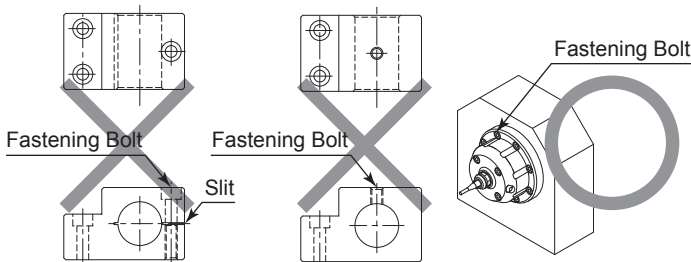

Fig. 4
- Secure the spindle to the countersunk holes (8 locations) on the flange using M3 bolts as shown in Fig.1 and Fig.4.